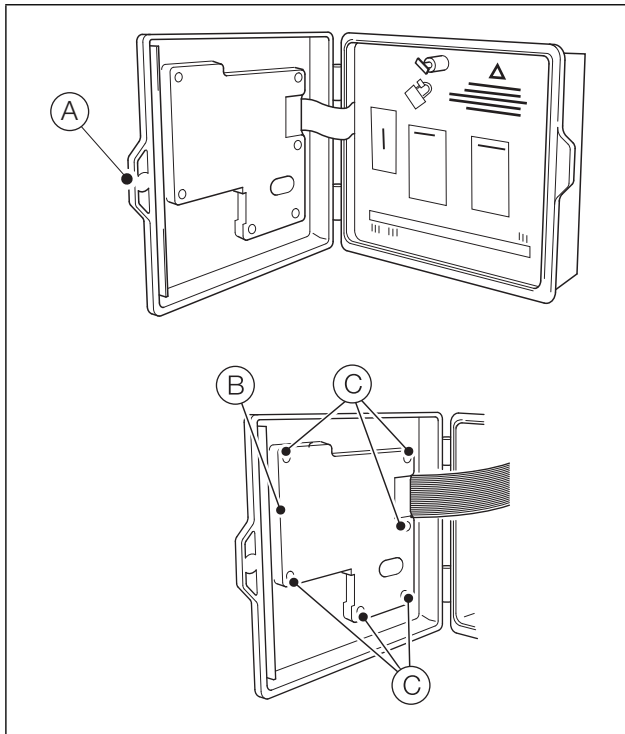

Fig. 6.1 Removing the display cover
Referring to Fig. 6.1:
2. Using a pozi-drive screwdriver, turn the (captive) electronics section door retaining screw (A) 1/4 turn counter-clockwise and open the door.
3. Referring to Fig. 6.1, open the transmitter door and remove the display cover (B) by unscrewing the 6 Torx (T8) screws (C):